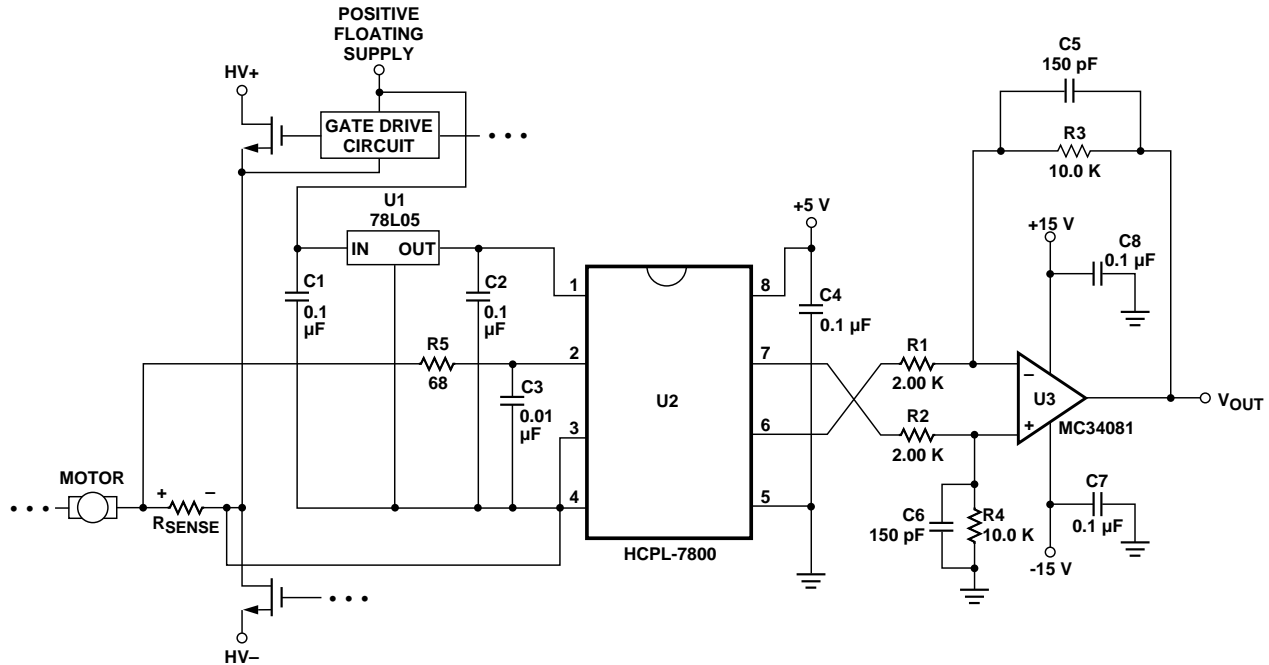

Figure 18: Recommended Application Circuit.
As shown in Figure 18, 0.1  $\mu\text{F}$  bypass capacitors (C1, C2) should be located as close as possible to the pins of the HCPL-7800(A). The bypass capacitors are required because of the high-speed digital nature of the signals inside the
The recommended method for connecting the HCPL-7800(A) to the current sensing resistor is shown in Figure 18.  $V_{IN+}$  (pin 2 of the HCPL-7800(A)) is connected to the positive terminal of the sense resistor, while  $V_{IN-}$  (pin 3) is shorted to GND1 (pin 4), with the power-